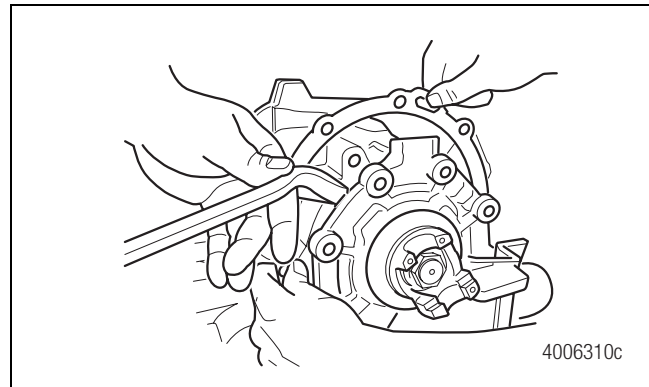

Figure 4.12
- Use a pry bar and mallet to loosen the input cage cover and internal pump assembly, if equipped. Figure 4.12.
- Remove the shim pack. Figure 4.12.